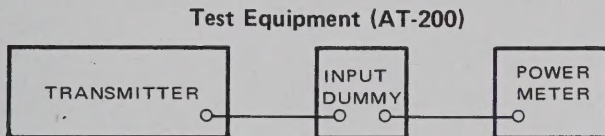

Fig. 1
- ① Connect the instruments in accordance with Fig. 1.
- ② Unless otherwise specified, the respective knobs and switches should be set at the following positions:
Same as for Fig. 1.